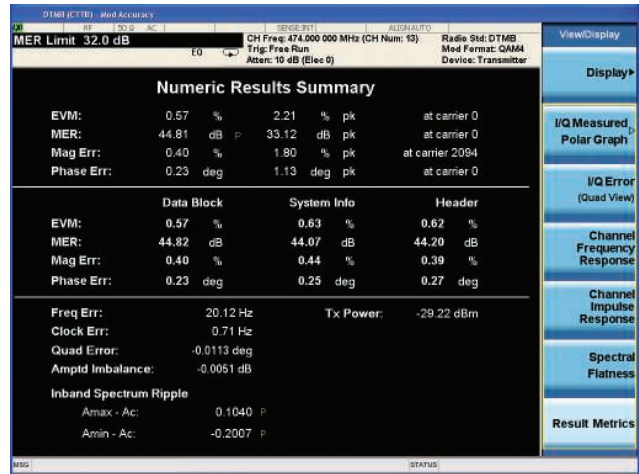

Figure 19. Modulation accuracy measurement with result metrics view
- **Result metrics** view (Figure 19): This view displays the summary of all the detailed numeric result metrics.
View result metrics (Figure 19)	[View/Display] {Result Metrics}